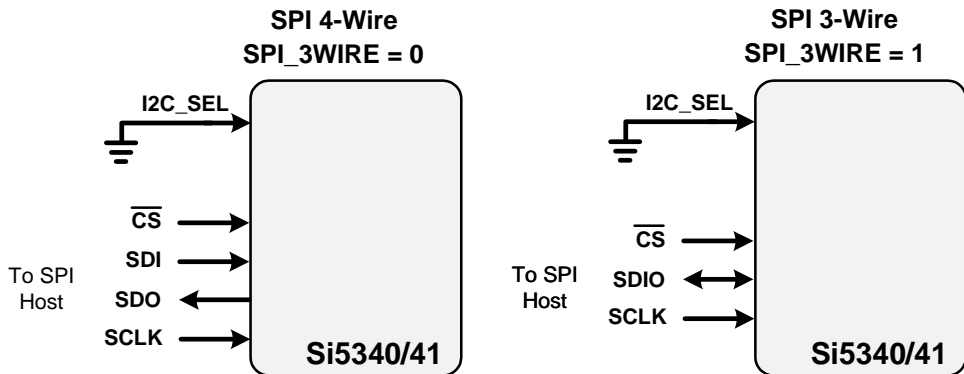

Figure 19. SPI Interface Connections
Data is transferred MSB first in 8-bit words as specified by the I²C specification. A write command consists of a 7-bit device (slave) address + a write bit, an 8-bit register address, and 8 bits of data as shown in Figure 19. A write burst operation is also shown where subsequent data words are written using to an auto-incremented address.
When in SPI mode, the serial interface operates in 4-wire or 3-wire depending on the state of the SPI_3WIRE configuration bit. The 4-wire interface consists of a clock input (SCLK), a chip select input (CS), serial data input (SDI), and serial data output (SDO). The 3-wire interface combines the SDI and SDO signals into a single bidirectional data pin (SDIO). Both 4-wire and 3-wire interface connections are shown in Figure 19.